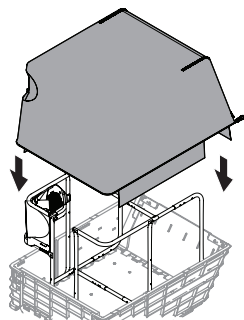

Figure 13
- Drape mesh cover (764-05215) over frame assembly, aligning bag vent and mesh cover opening. See Figure 13.